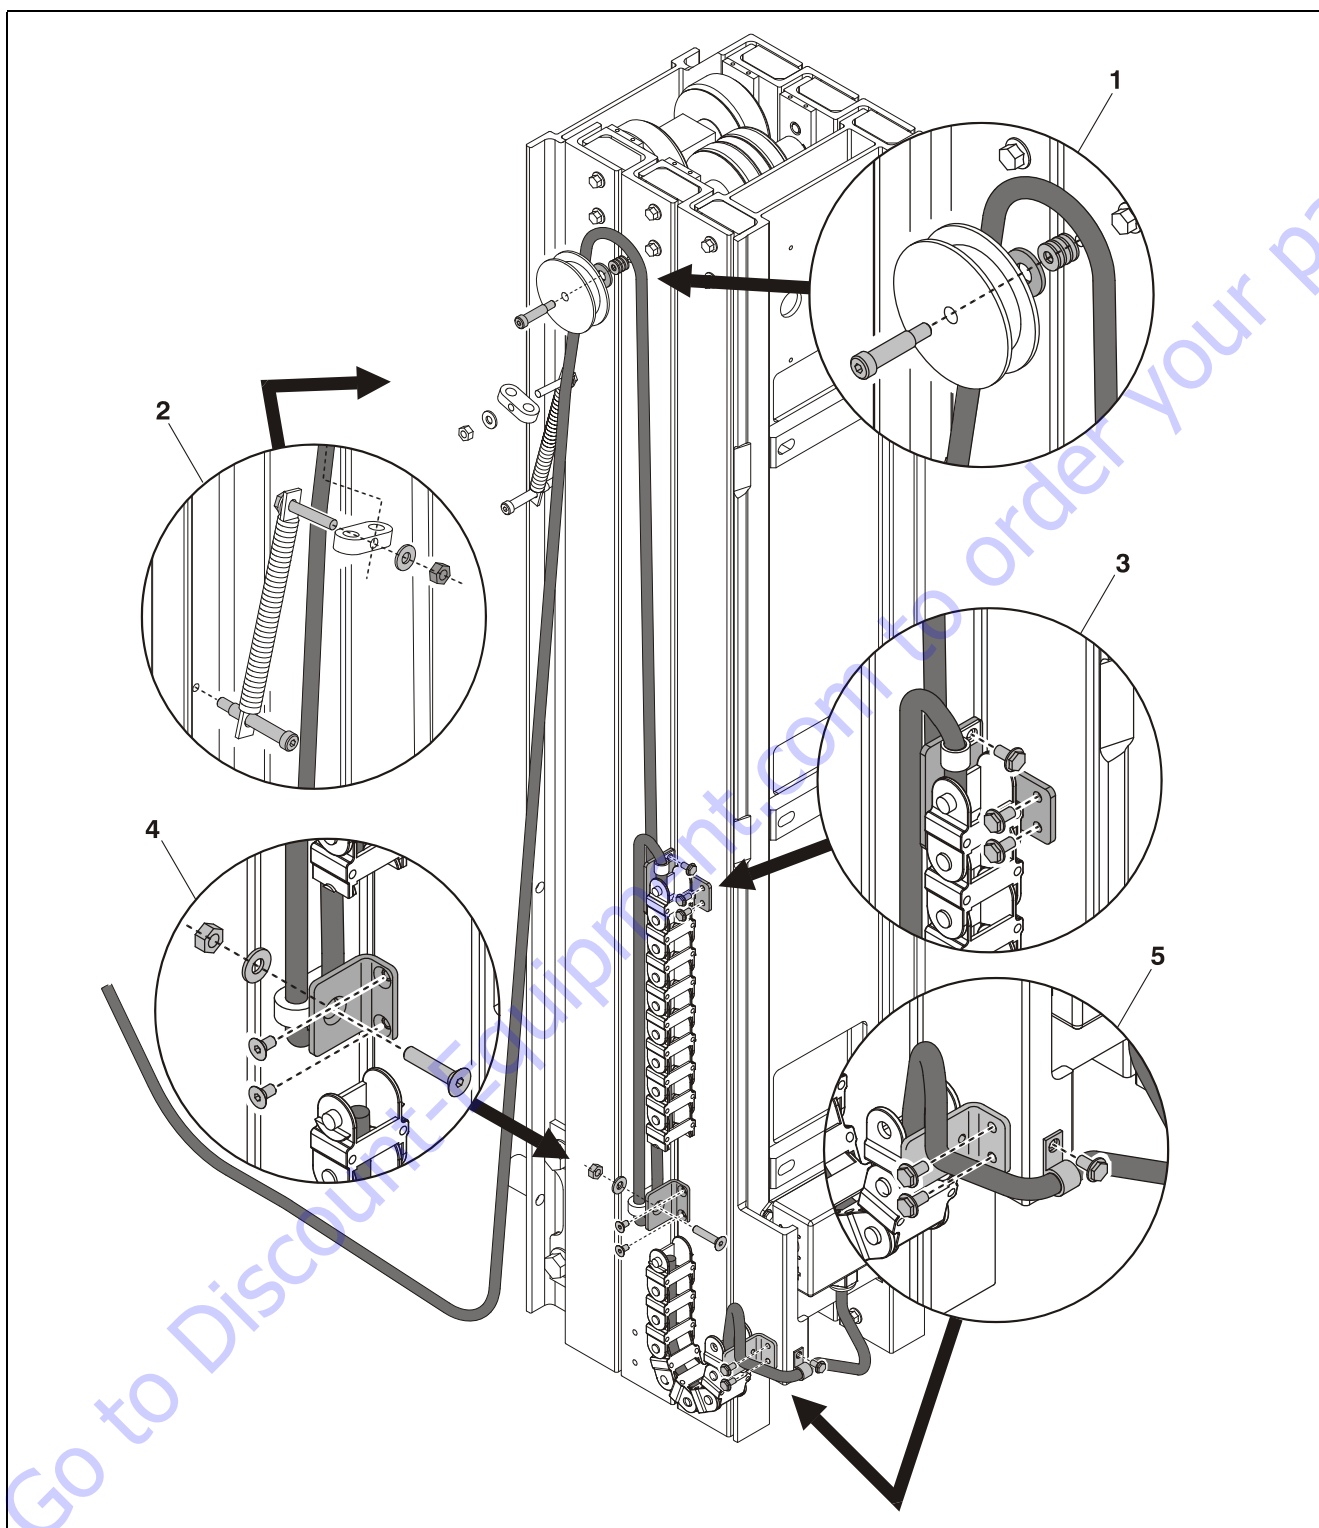

Figure 5-8. Platform Junction Box to Ground Control Station Wiring Harness
13. Install the platform junction box to ground control station wiring harness (refer to Figure 5-8.), including the platform junction box, powertrack assembly, harness cable sheave assembly, and harness spring tensioner to the side of the mast assembly. Refer to Section 4, Platform Junction Box Install/Remove.